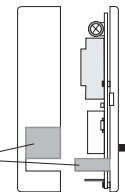

Fig. 5.i
From the base, remove the parts prepared for the passage of the connection wires shown in fig. 5.i.
- Attach the base to the wall (or built-in box), with 2 screws using the pairs of holes (A-A, B-B, C-C) provided (fig. 5.i).